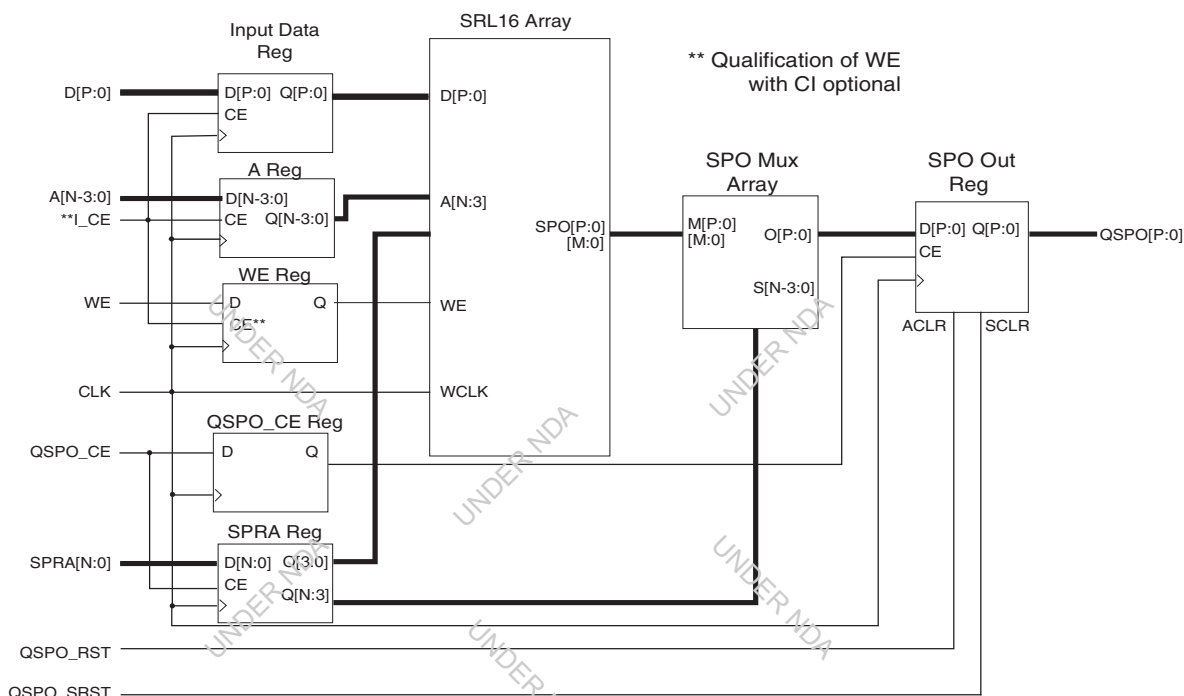

Figure 8: SRL16-Based RAM Module Schematic
- **SRL16-Based RAM.** Figure 8 illustrates a schematic of the structure of the SRL16-based RAM module. The address and data registers are optional (controlled by the setting of the Input Options parameter). Output registers are also optional (controlled by the setting of the Output Options parameter). The resets and clock enables are optional. When the project family is set to Virtex-5, this option will be greyed-out.